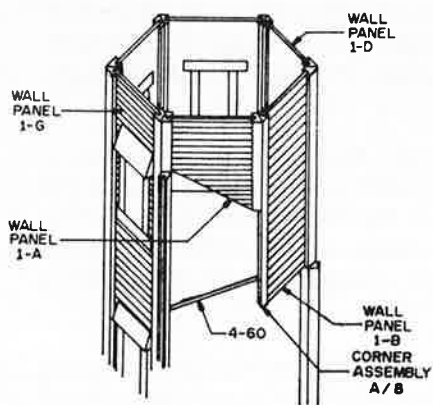

FIG. 28
13. ☐ Cut notches in the two floor panels (part no. 4-59) as shown in Figure 28. The corner notches are a quarter-inch square; and the notches on the front edges a quarter-inch deep by a half-inch wide.